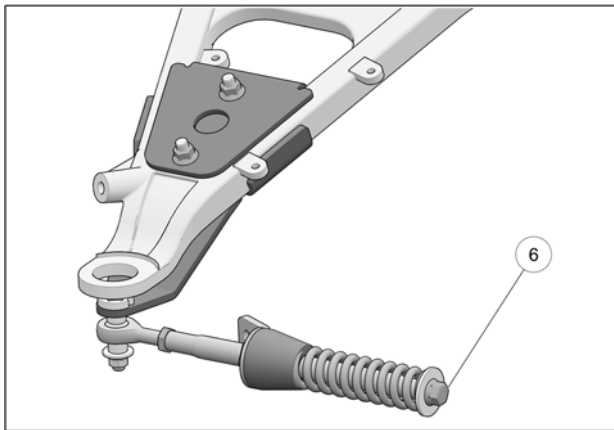

Fig. 18
- Verify that spring assembly bolt (6) is tightened to the recommended torque specification: 75 N•m [55 lb•ft]. Refer to Fig. 18